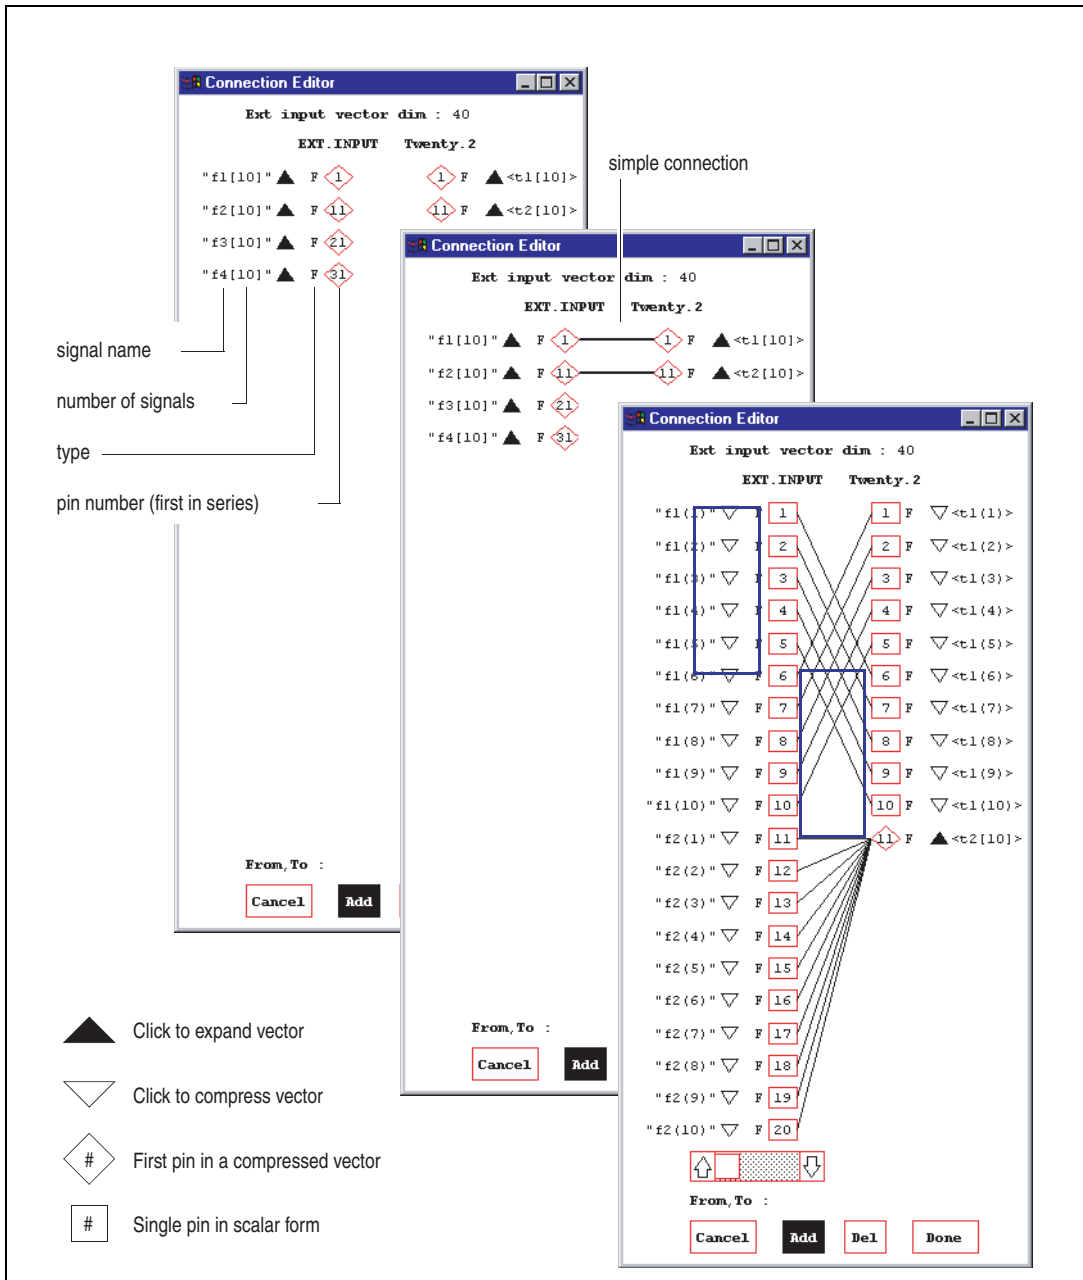

Figure 5-15. Connecting External Inputs to Forty
The Connection Editor appears. The initial view, ①, in Figure 5-15, demonstrates that vectored labels are grouped together by default.
- b. Double-click the **Add** button to create a simple connection from the external inputs to Twenty (refer to ②). Expand the *f1* and *f2* source vectors by clicking the filled triangle beside *f1[10]* and *f2[10]*. Do the same for the *t1* destination.